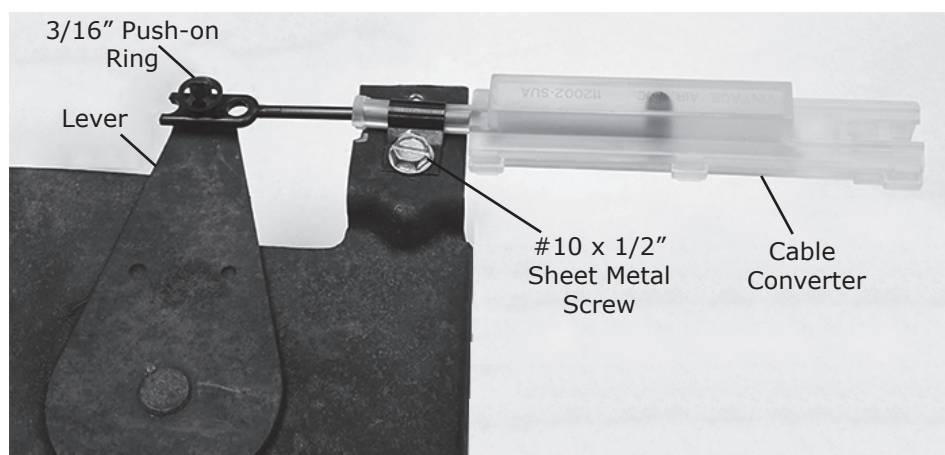

Figure 6
1. Install cable converter lever push rod onto OEM cable mounting stud on lever (See Figure 6, below).
2. Secure the cable converter to the tab using a #10 X 1/2" sheet metal screw through the clamp as shown in Figure 6, below.
4. Secure the cable converter lever push rod onto the OEM cable mounting stud using a 3/16" push-on ring (See Figure 6, below).